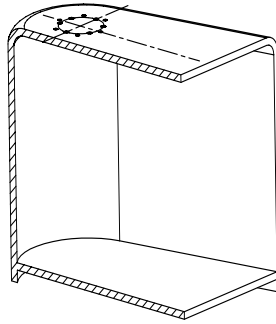

fig. 2
- 2. Drill holes to accommodate the hose carrier tubes and mounting bolts, as per supplied template. NOTE: The crane will be supplied in it's park position, allowing 180 deg of rotation. Fig 2